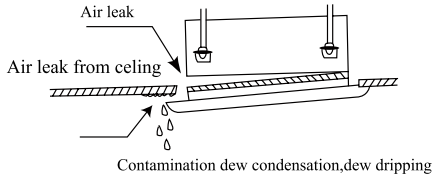

Fig.23
1. Improper screwing of the screws may cause the troubles shown in Fig.23.